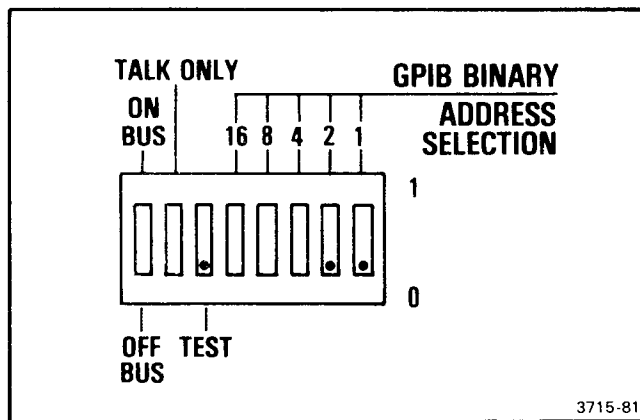

Figure 5-7. GPIB address selection switch. Shows GPIB TEST switch in the ON position and stimulation routine 3 selected.
Stimulation routines are selected by means of the GPIB Address Selector switches in conjunction with the TEST switch on the rear panel of the instrument (refer to Fig. 5-7). With the TEST switch in the ON position at power-up, the 5223 Option 10 will complete its ROM self-test then branch to which ever stimulation routine is selected. This will also happen if the A14-Driver board is disconnected or otherwise disabled, in which case stimulation routine 0 is automatically entered. Each of the stimulation routines is a "dead-end" as far as the firmware is concerned, and once entered they run repetitively until the microprocessor is reset.
14. Set the rear-panel TEST switch to the ON position (see Fig. 5-7) and select the appropriate signature analysis stimulation routine.